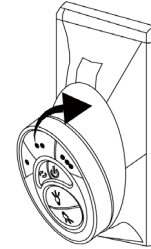

Fig. 27
**Step 1.** To place the transmitter in the wall plate, put the bottom end in first and then press the top into the wall plate. The transmitter is now held in the wall plate and will function from here. (Fig.27)